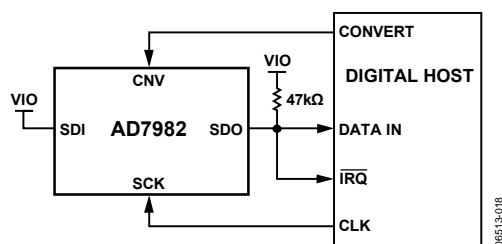
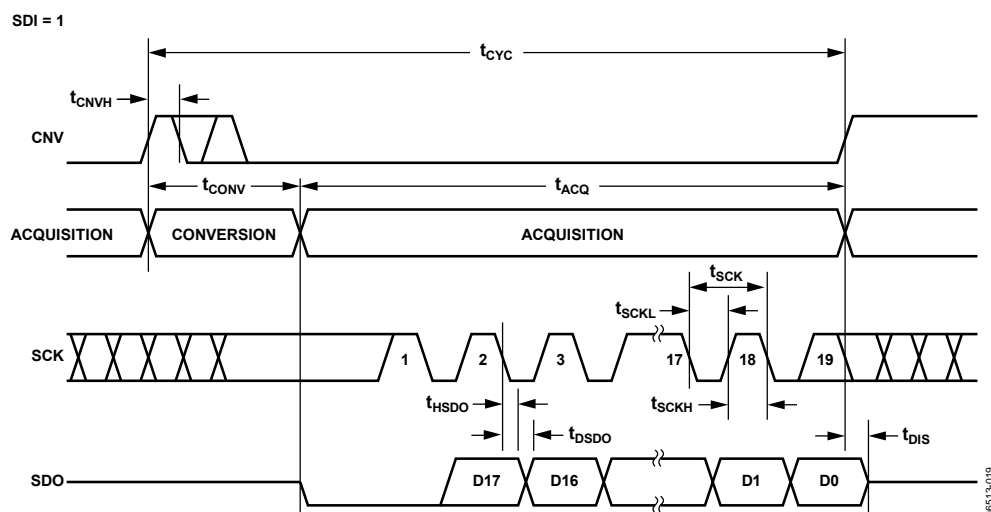
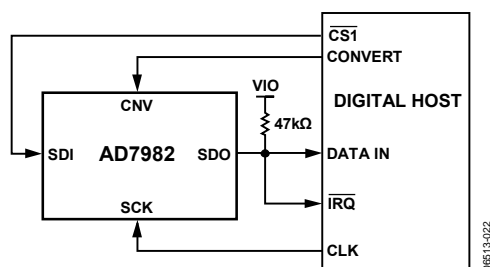
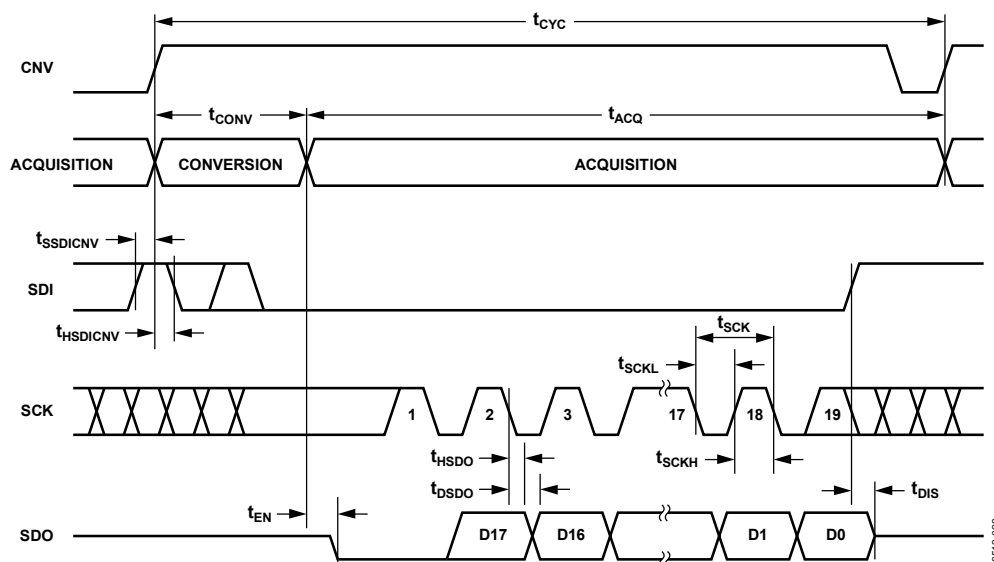

Figure 31. $\overline{\text{CS}}$ Mode, 3-Wire with Busy Indicator Connection Diagram (SDI High)
Figure 32. $\overline{\text{CS}}$ Mode, 3-Wire with Busy Indicator Serial Interface Timing (SDI High)
Figure 35. \overline{CS} Mode, 4-Wire with Busy Indicator Connection Diagram
Figure 36. \overline{CS} Mode, 4-Wire with Busy Indicator Serial Interface Timing
- In the $\overline{\text{CS}}$ mode if CNV or SDI is low when the ADC conversion ends (see Figure 32 and Figure 36).
The connection diagram is shown in Figure 31, and the corresponding timing is given in Figure 32.
The connection diagram is shown in Figure 35, and the corresponding timing is given in Figure 36.